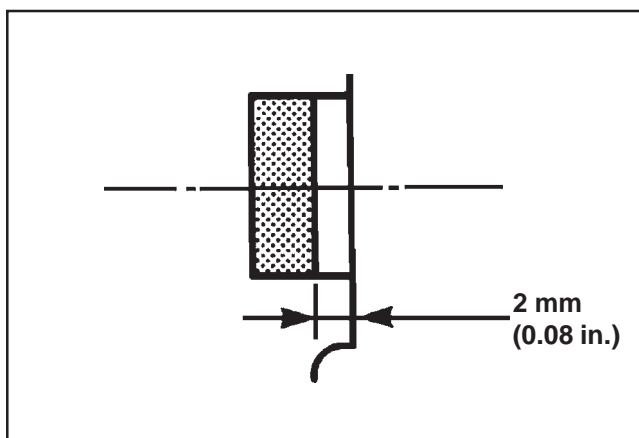

Figure 11-26. Oil Seal Installation Depth.
2. Install a new oil seal into the cover to a depth of 2 mm (0.08 in.). See Figure 11-26. Apply a light coating of lightweight lithium grease to lip of seal.